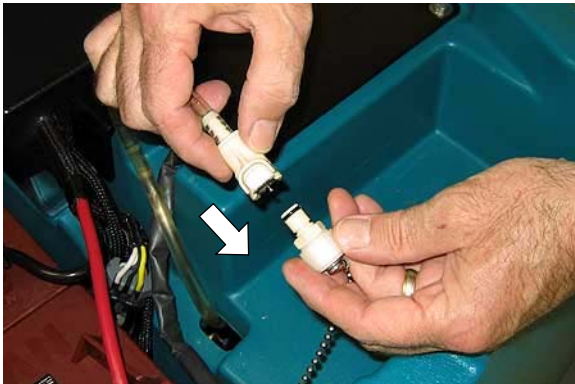

FIG. 89
5. Remove the valve coupling and connect the storage plug (Figure 89).